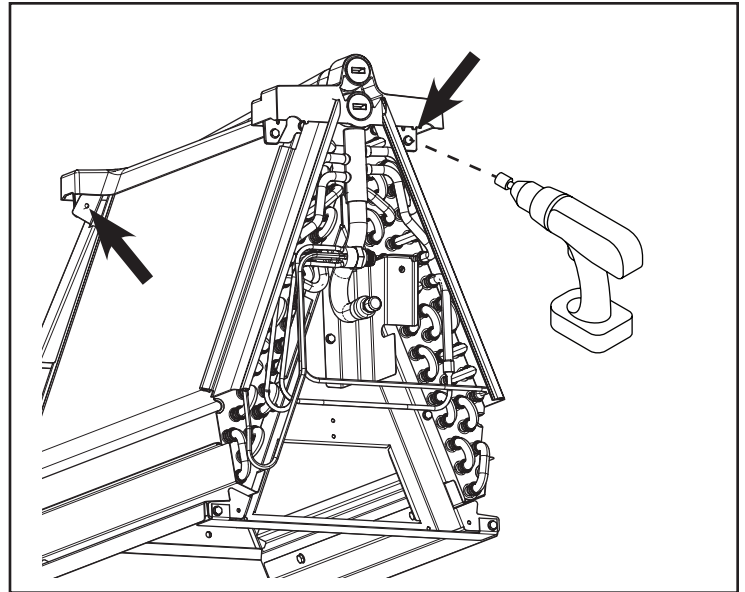

Figure 72 – Remove Upflow Drain Pan
10. Remove the upflow drain pan by removing the four screws attaching it to the coil (See Figure 72). Keep drain pan and four screws. Note: two screws are on the opposite side and not visible in the illustration.